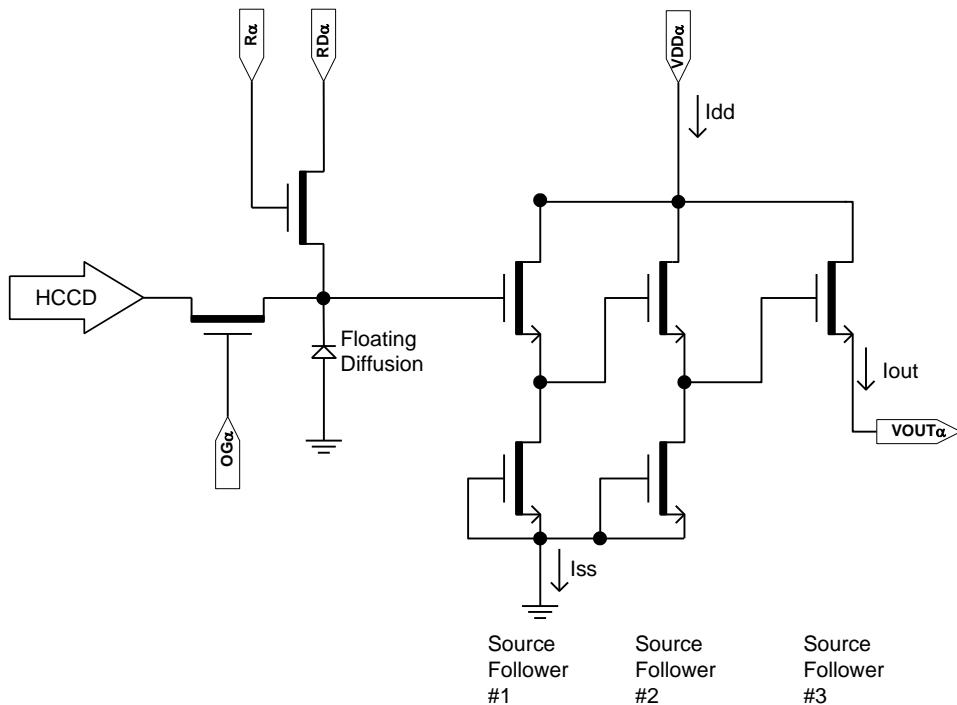

Figure 15: Output Amplifier
2. The maximum DC current is for one output. $I_{dd} = I_{out} + I_{ss}$. See Figure 15.